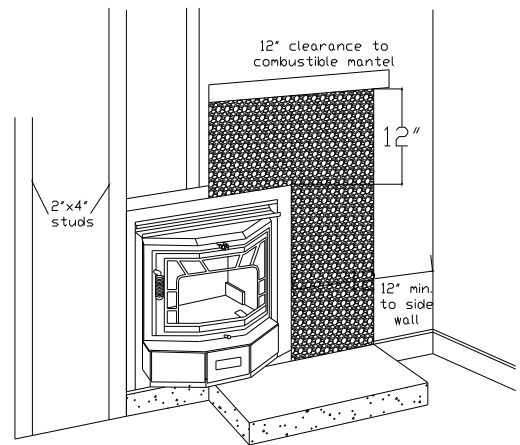

FIGURE 5
(C) Finish construction around the unit (FIGURE 5).